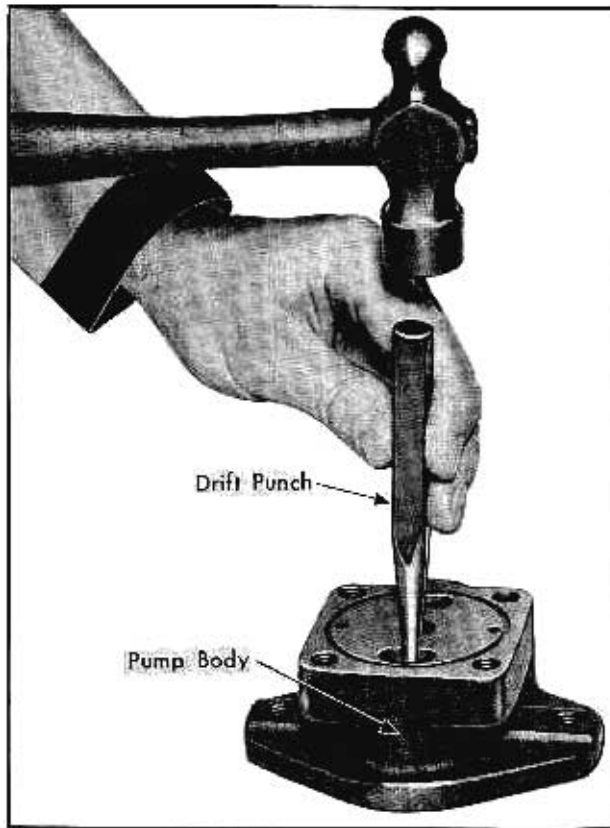

Fig. 7-19 Removing Pump Shaft Oil Seal
16. Remove oil seal from pump body with a long punch inserted through large holes in machined face of pump body, and discard seal. Fig. 7-19.